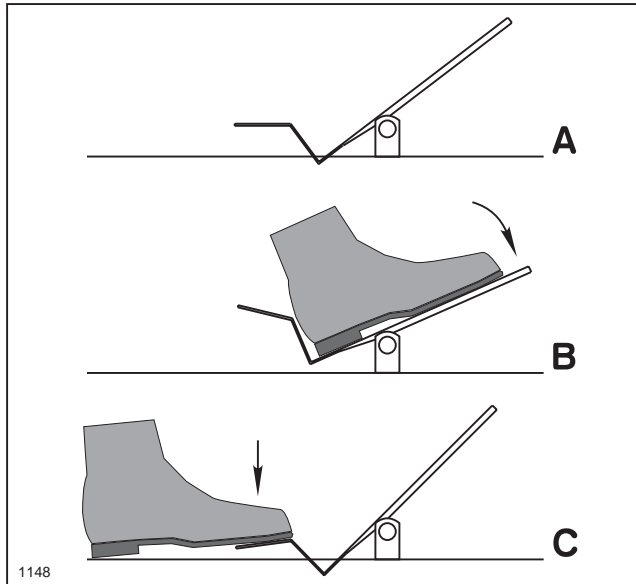

FIG. 27
2. With the operator's foot positioned on the foot pedal as shown in (FIG. 27, page 25), slowly apply pressure with the toe on top of the pedal away from the operator to move in a FORWARD direction. Position toe on the "tail" of the pedal to move in a REVERSE direction.